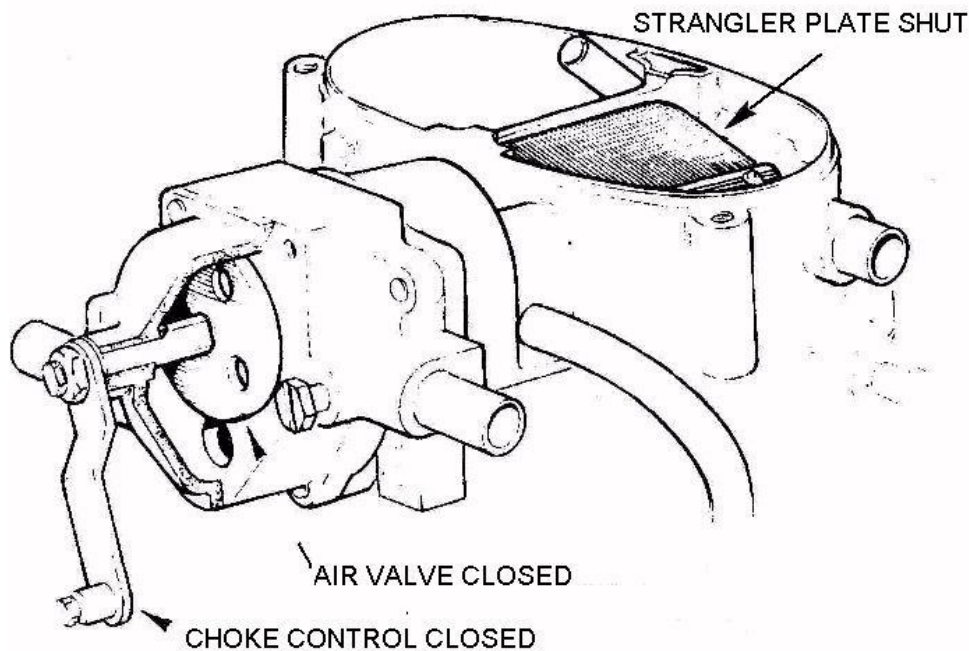

Fig. 15 - Cold Start System.
1. Provision for cold starting (Fig. 15)